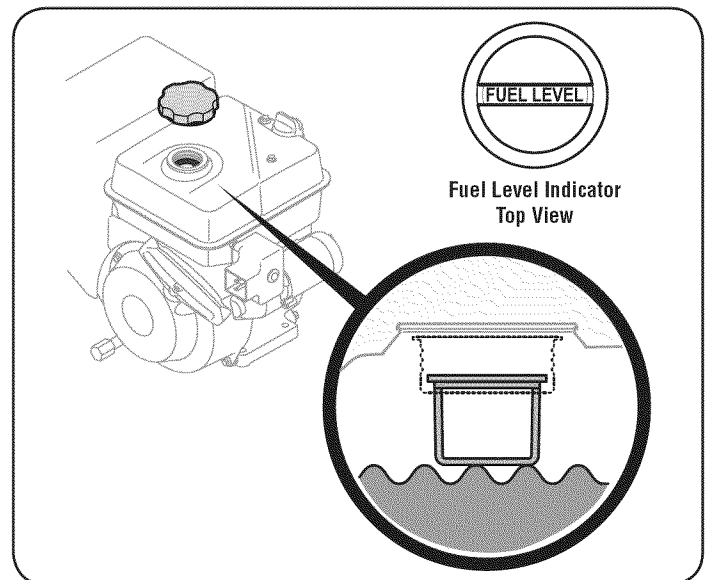

Figure 8
4. Remove the oil filler cap/dipstick. If the level is low, slowly add oil until oil level registers between high (H) and low (L), Figure 8.
4. Fill the tank until the fuel reaches the "fuel full" indicator mark. See Figure 8.